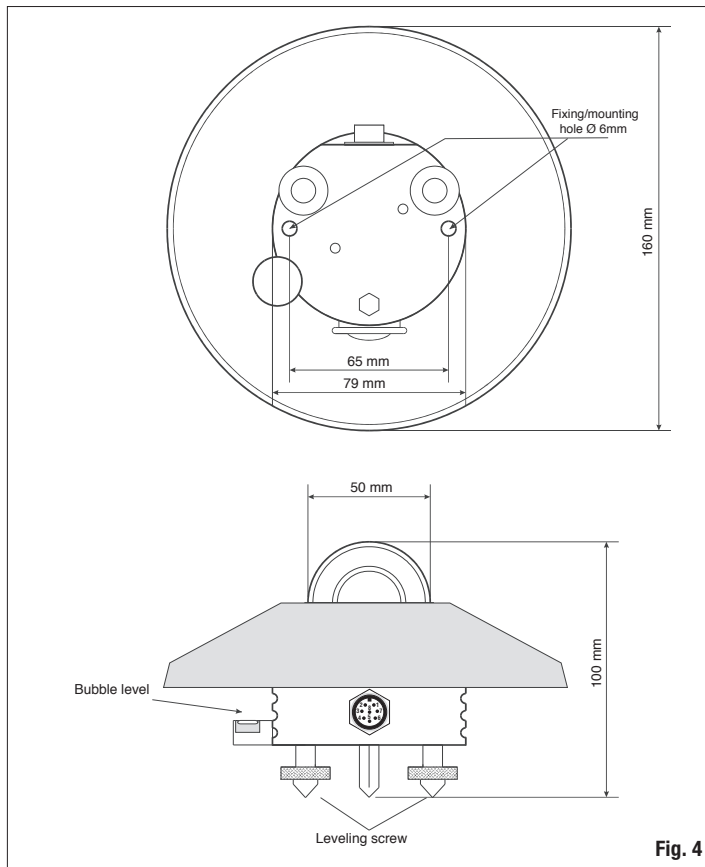

Fig. 4
- The LP UVB 02 radiometer is provided with a spirit level for carrying an accurate horizontal leveling. The adjustment is made by means of two leveling screws that allow to adjust the radiometer inclination. Use the two 6mm-diameter and 65mm-interaxial-distance holes to mount the instrument on a plane. Remove the shade disk to access the holes and reposition it after mounting (see Fig. 4).
Dimensions:	Fig. 4